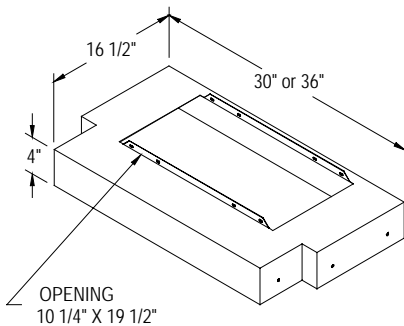

Figure 2
2. T-shaped Metal Liner, Figure 2